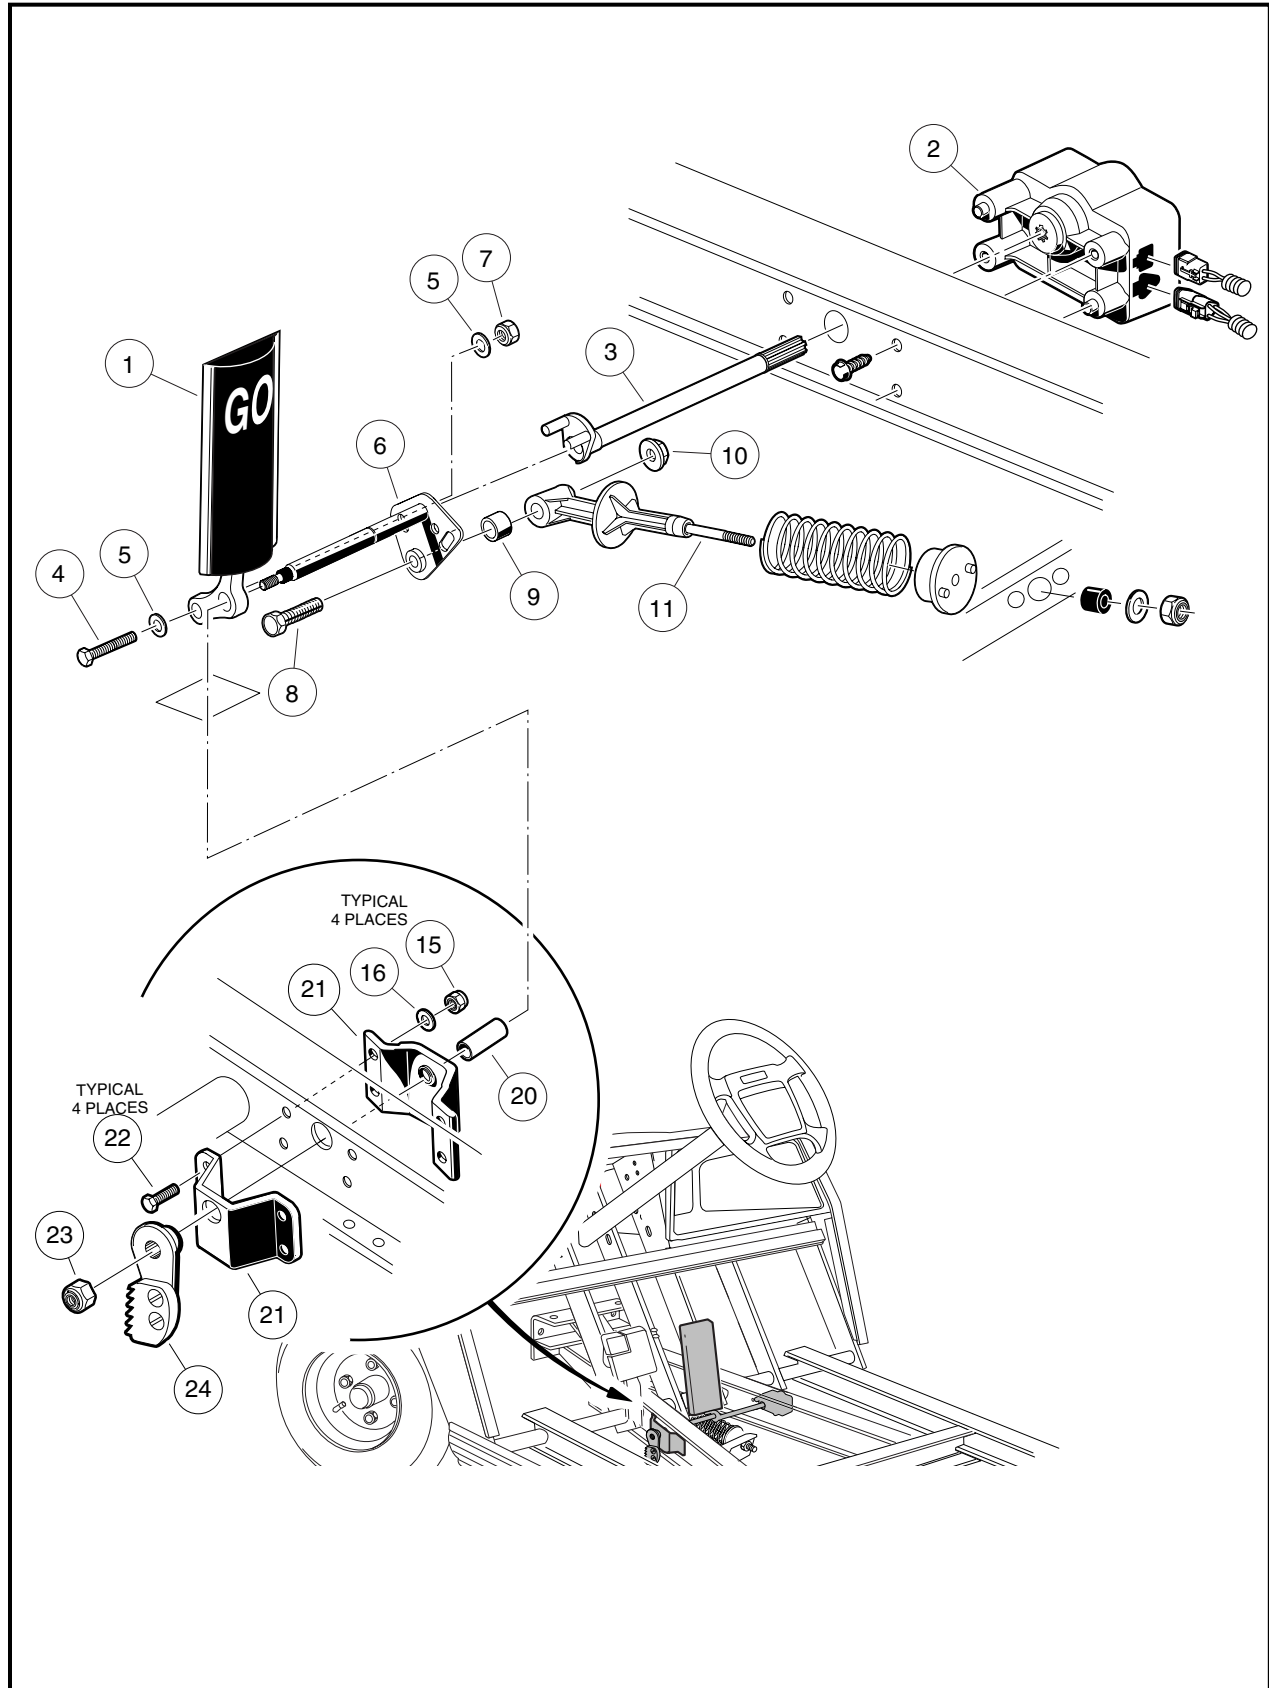

Figure 5-8 Accelerator Pedal – Electric Vehicle
3. Remove the MCOR (2) and drive bar (3) as instructed (**Figure 5-8, Page 5-10**). See **MCOR Removal, Section 12, in the appropriate maintenance and service supplement.**
4. Using a 9/16-inch socket and 9/16-inch wrench, remove the nut (7), two washers (5), and bolt (4) securing the accelerator pedal (1) to the pivot rod (6) (**Figure 5-8, Page 5-10**).
5. Remove the nut (10) and bolt (8) from the accelerator pivot rod assembly (6).
6. Slide the spring retainer (11) off of the accelerator pivot rod.
7. Inspect the pivot support bearing (9) for wear and replace if necessary.
8. Use a marker to mark the position of the park brake ratchet (24) on the accelerator pivot rod (6). See following **NOTE.**
9. Remove the lock nut (23) from the accelerator pivot rod.
10. Press the brake pedal slightly and slide the park brake ratchet (24) toward the end of the accelerator pivot rod. Rotate the ratchet and remove it from the pivot rod.
11. Remove the pivot rod (6) and spacer (20) from the accelerator pivot rod supports (21) (**Figure 5-8, Page 5-10**).
12. Inspect the accelerator pivot rod supports (21) for wear and damage and replace as necessary. If the pivot rod supports do not require replacement, loosen, but do not remove, the four bolts (22) and lock nuts (15) to make installation of the pivot rod easier.
13. Remove the accelerator pedal (1) from the vehicle (**Figure 5-8, Page 5-10**).
1. If the accelerator pivot rod supports were replaced, position the supports (21) on the vehicle frame and install the four bolts (22), flat washers (16), and lock nuts (15) (**Figure 5-8, Page 5-10**). Finger-tighten nuts at this time.
2. Insert the lower end of the accelerator pedal (1) through the floorboard and install the accelerator pivot rod (6) through the uppermost hole in the pedal.
3. Install plastic spacer (20) on pivot rod (6).
4. Insert the pivot rod through the pivot rod supports (21) on the vehicle frame.
5. Tighten the four bolts (22) attaching the pivot rod supports to the frame to 75 in-lb (8.5 N·m) (**Figure 5-8, Page 5-10**).
6. Insert the bolt (4), two washers (5), and a new lock nut (7) through the lower hole in the pedal and through the pivot rod. Finger-tighten lock nut at this time.
7. Install the bolt (8) through the pivot rod (6) and spring retainer (11). Secure these parts with the nut (10) (**Figure 5-8, Page 5-10**). Tighten the nut to 50 in-lb (5.5 N·m).
11. Install lock nut (23) on pivot rod (**Figure 5-8, Page 5-10**). Tighten to 18 ft-lb (24.5 N·m).
12. Install the MCOR (2) and drive bar (3) as instructed. **See MCOR Removal, Section 12, in the Power-Drive Maintenance and Service Supplement.**